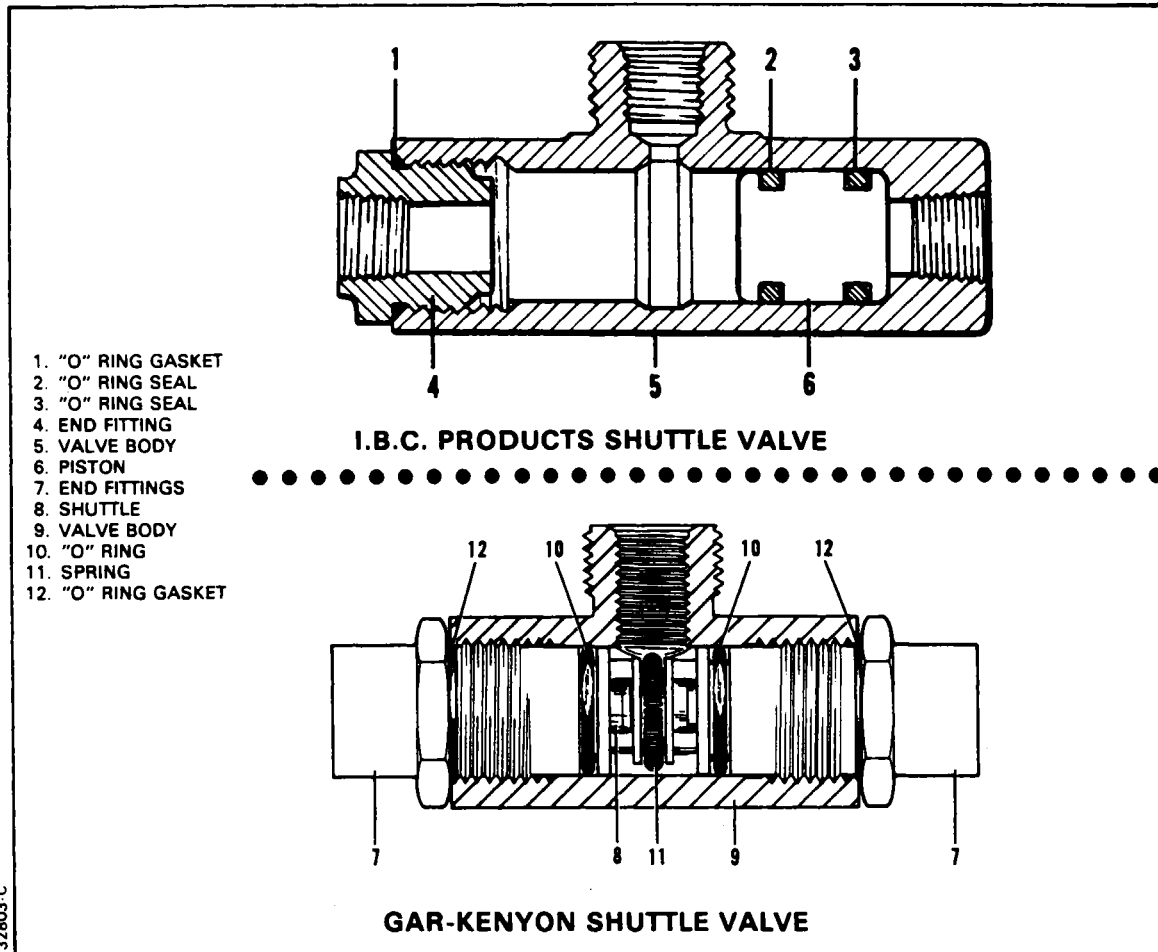

Figure 6-26. Shuttle Valve
6-83. CLEANING, INSPECTION AND OVERHAUL OF SHUTTLE VALVE. (Refer to Figure 6-26.)
1. Remove the end fittings (7).
2. Remove the shuttle (8) from the valve body (9).
5. Lubricate end fittings (7) with hydraulic fluid (MIL-H-5606) and install new "O" rings (10 and (12).
6. Position spring (11) on shuttle to close the "EMG" port.
7. Install end fitting (7) and shuttle (8) as noted in Figure 6-26.